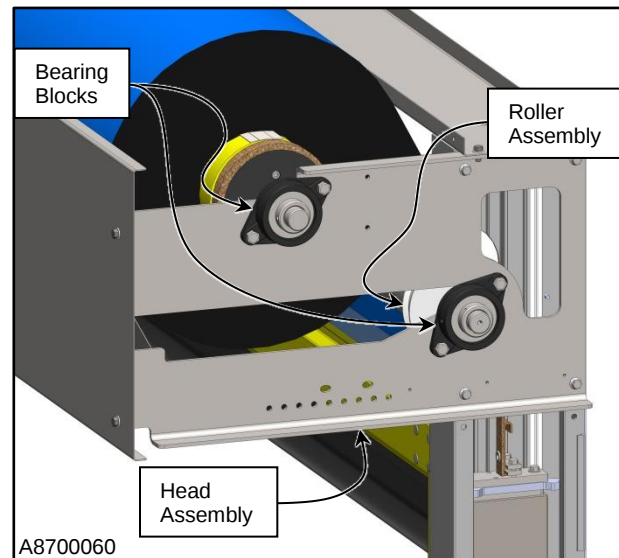
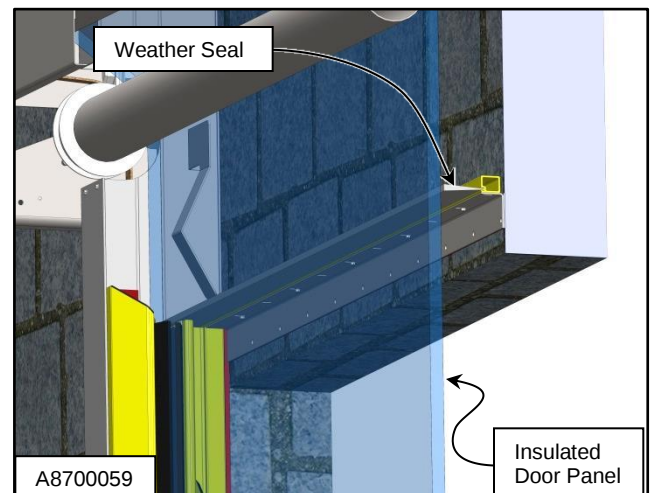

Figure 17
Figure 22
Make sure all nuts, bolts, set screws, and anchors are tight throughout the door. Example: motor mounting bolts, wall mounting hardware, floor anchors, shaft set screws, etc. (See Figure 17 - Figure 22)
1. Inspect the entire length of the weather seal for wear and damage. Replace if necessary. (See Figure 22)